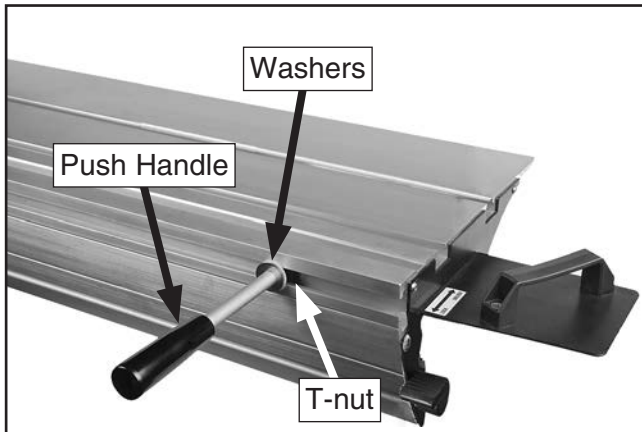

Figure 25. Push handle attached to sliding table.
- Slide M12-1.75 T-nut of push handle assembly into T-slot at front end of sliding table, as shown in **Figure 25**. It may be necessary to loosen T-nut first.
Note: Make sure 12mm flat washer and 12mm copper washer are positioned in front of T-slot, as shown in **Figure 25**.